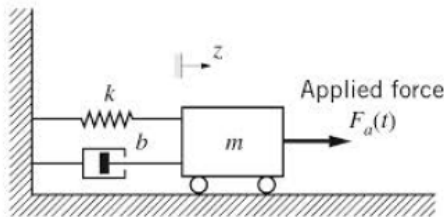

Figure P6.4
- 6.4 Figure P6.4 shows a mass–spring–damper mechanical system. The system is initially at rest. At time $t = 0$, a pulse force is applied to the mass. The pulse force is $F_a(t) = 8 \text{ N}$ for $0 \leq t \leq 0.05 \text{ s}$ and $F_a(t) = 0$ for $t > 0.05 \text{ s}$. The system parameters are $m = 2 \text{ kg}$, $b = 5 \text{ N}\cdot\text{s}/\text{m}$, and $k = 200 \text{ N}/\text{m}$. Simulate the dynamic response using MATLAB commands and plot the response $z(t)$.